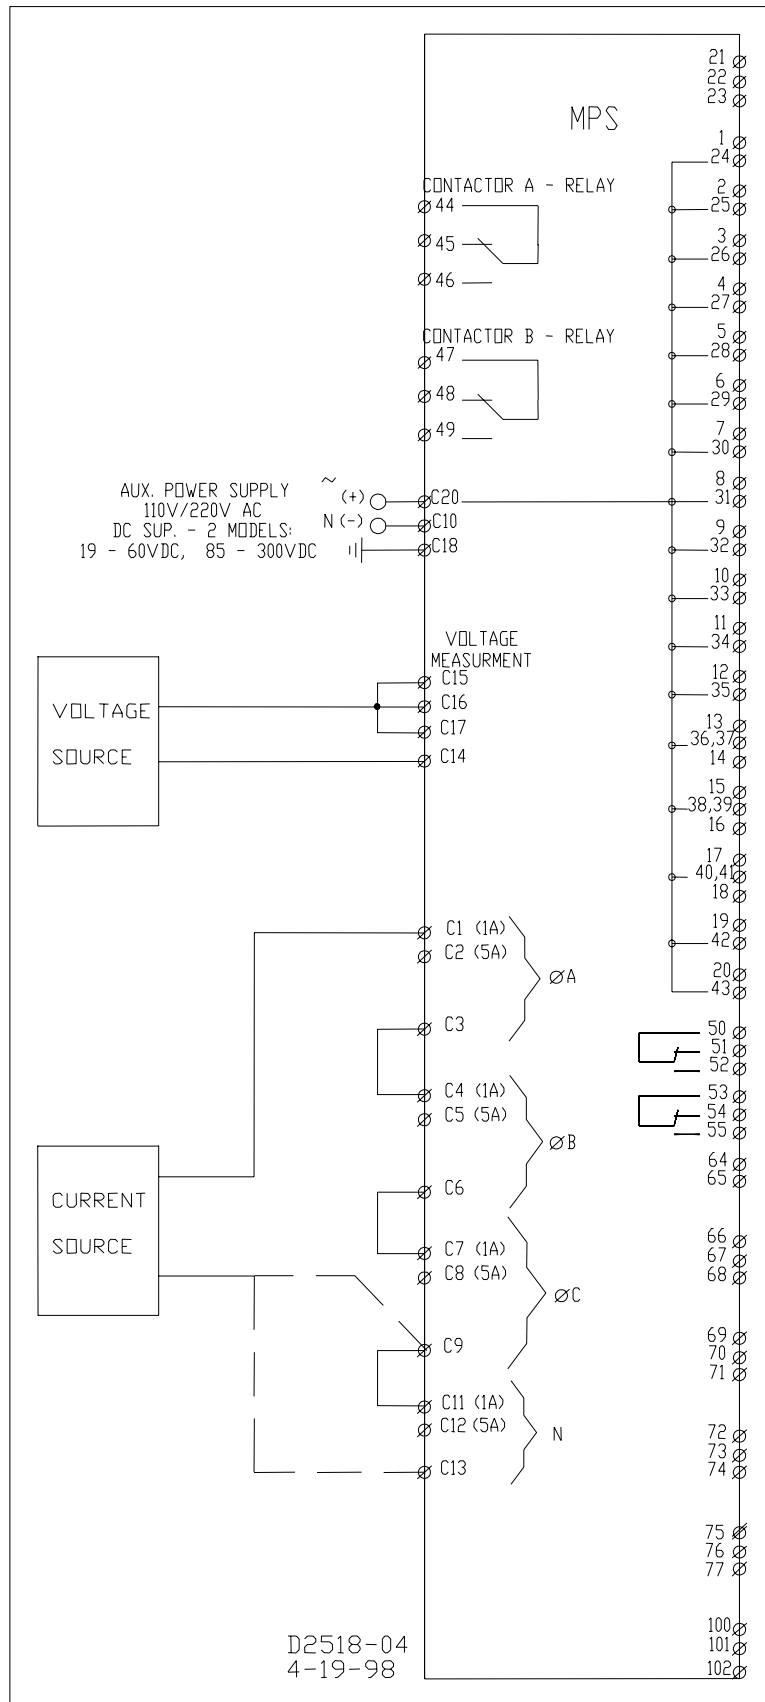

Figure 6-1. Typical Test Connection Diagram
To use a single-phase power, connect power to the relay as follows. (See Figure 6-1 for a typical test connection diagram.) Connect the current inputs in series by connecting terminals C3 to C4, C6 to C7, and C9 to C11. Connect the voltage inputs in parallel by connecting terminals C15, C16, and C17 together.
- Step 4. Connect logic inputs as required to the appropriate terminals (use the typical connection diagram, Figure 6-1 for MPS200 relays or Figure 6-2 for MPS210 relays).